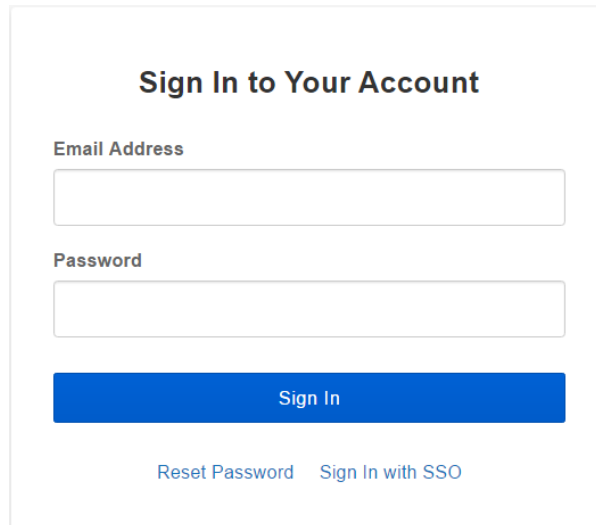

Figure 4: Box Log In
6.5.2. Enter your email/username and password, and then click Sign In (see Figure 4).